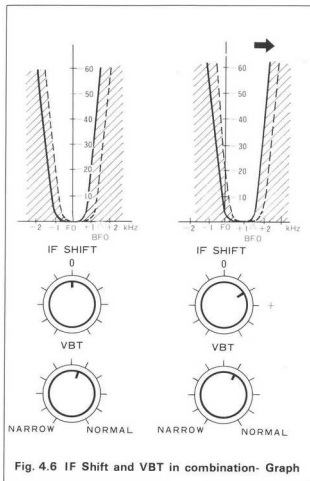

Fig. 4.6 IF Shift and VBT in combination- Graph
4.8 VBT AND IF SHIFT COMBINATION (FIG. 4-6)